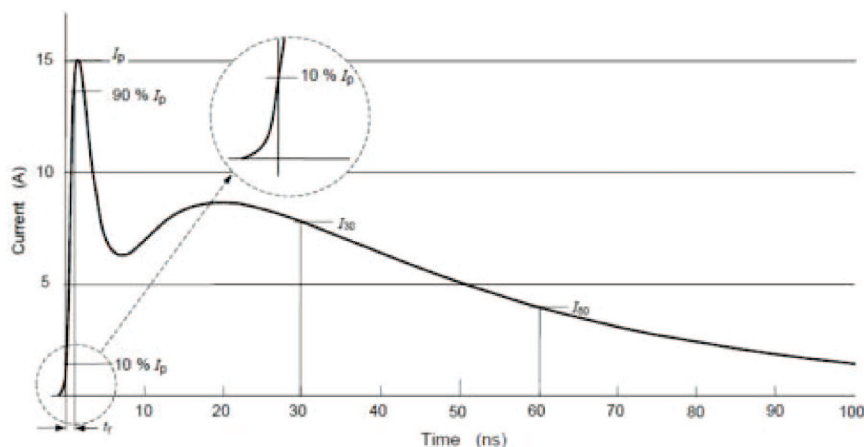

Figure 1. Ideal Contact Discharge Waveform of the Output Current of the ESD Simulator at 4 kV
3. ESD simulator – a device that outputs IEC61000-4-2 compliance ESD waveforms shown in Figure 1 with adjustable ranges shown in Table 2 and Table 3.